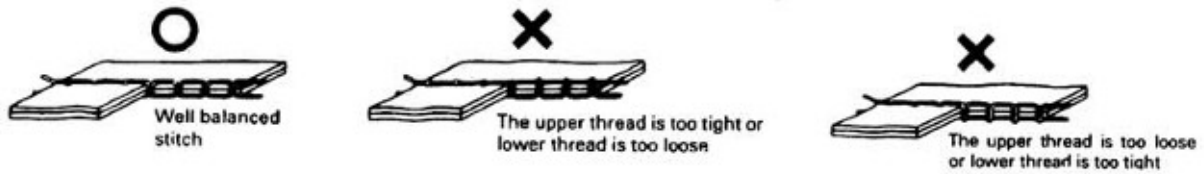

Fig.16
15. Adjusting the thread tension (Fig. 16):